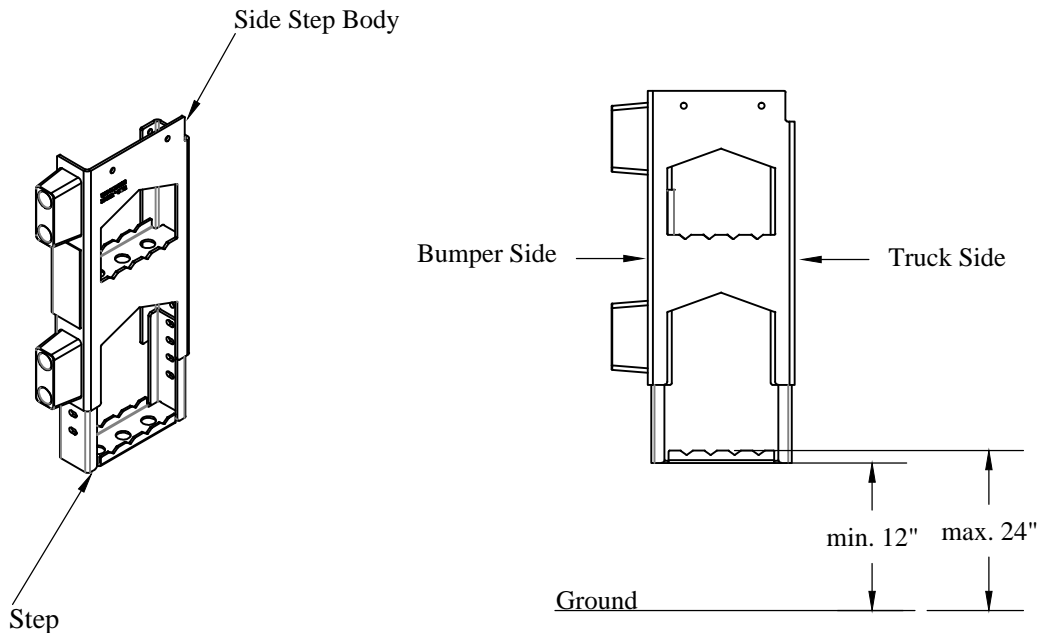

Figure 14: Side Steps Height Adjustment.
1. **Adjust** side step height to desired position (Figure 14).
2. **Bolt** the steps with the provided two (2) 1/2"x2-1/2" bolts, 1/2" flat washers and 1/2" crown lock nuts for the bumper side and two (2) 1/2"x1-1/2" bolts, two (2) 1/2"x2-1/2" bolts, 1/2" flat washers and 1/2" crown lock nuts for the truck side on the side step body.